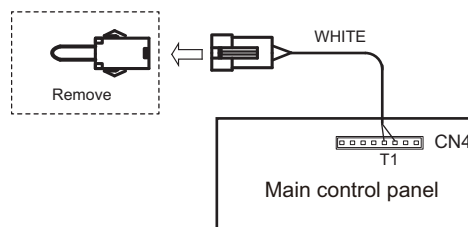

Fig. 21 —Room Temp.Sensor Short Wire
3. Remove the short wire of the room temp.sensor on the main control panel as shown in Fig. 21.